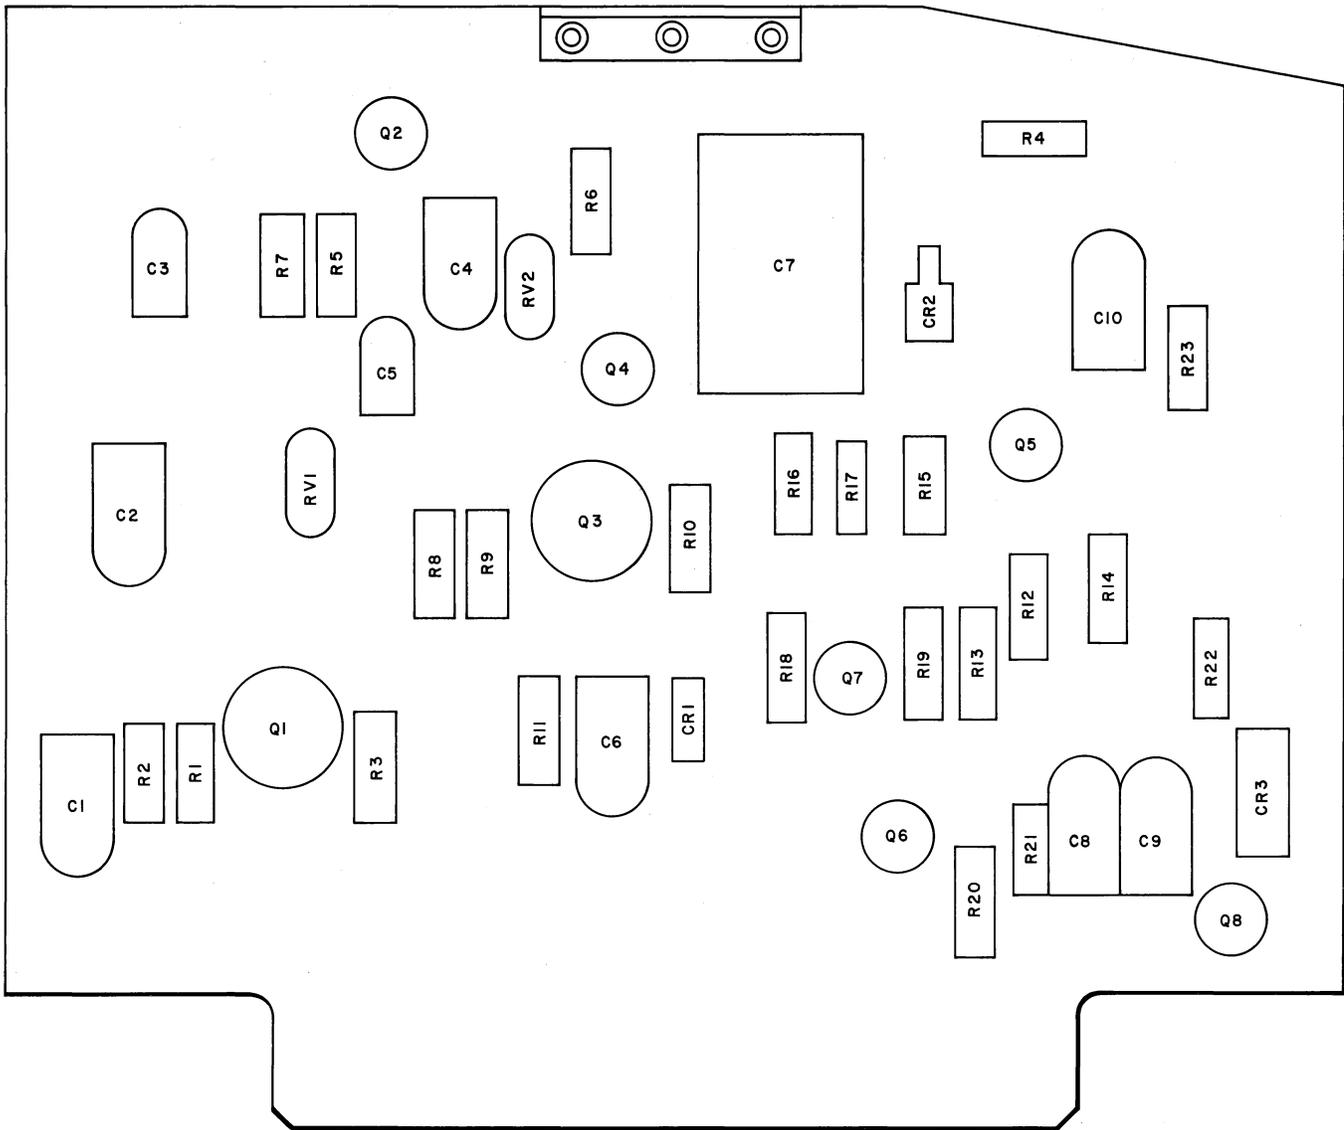
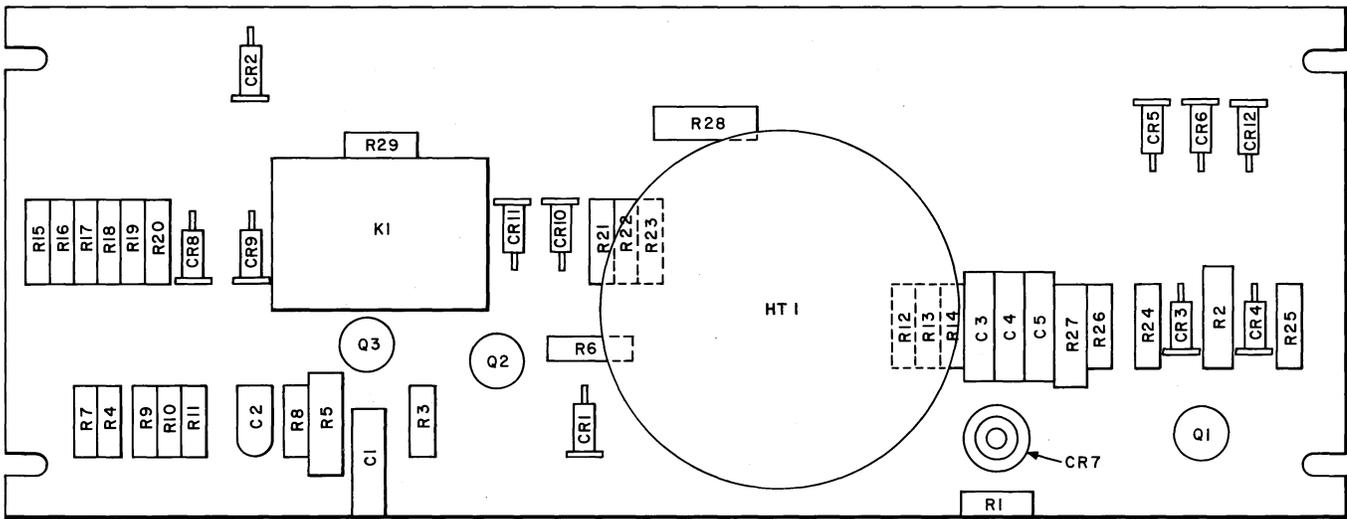

Fig. 19—CP AS9 Component Placement
Fig. 27—CP BM2 Component Placement
4.05 Component placement on the circuit pack assemblies is shown in Fig. 19 through Fig. 27.